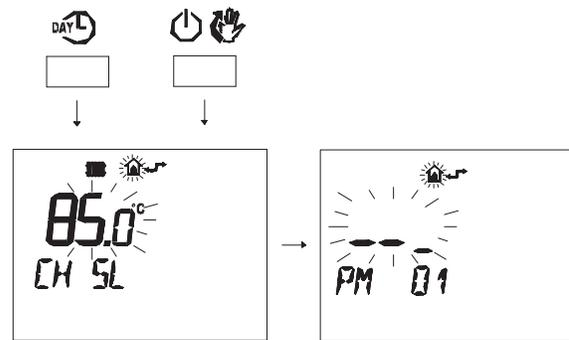

Fig. 7.33
- Press buttons **DAYL** and **POWER** at the same time to enter transparent programming (Fig. 7.33).